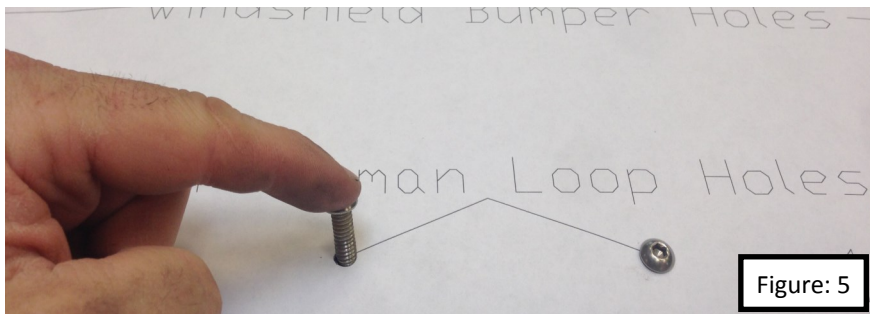

Figure: 5
- Using two 1/2" bolts and two 1/4" bolts locate the template using the footman loop holes (1/4") and the windshield bumper holes (1/2"). Figure: 5 & 6